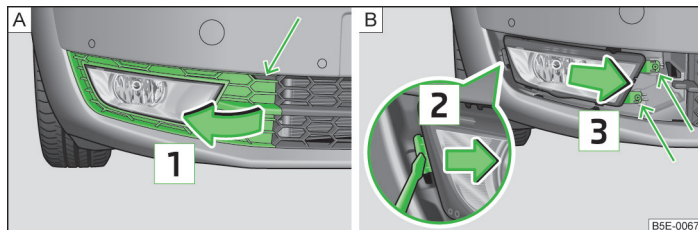

Fig. 216 Front bumper: Remove the protective grille/fog light
- Release the protective grille in the area of the arrow » Fig. 216 - **[A]** using the clamp for removing the wheel trims » page 215, *Car tool kit*.
- Remove the protective grille in the direction of the arrow **[1]** » Fig. 216.
- Use the screwdriver from the tool kit to unscrew the fog lamp » Fig. 216 - **[B]**.
- Replace the fog lamp by inserting it in the opposite direction of the arrow **[3]** » Fig. 216 and tighten.